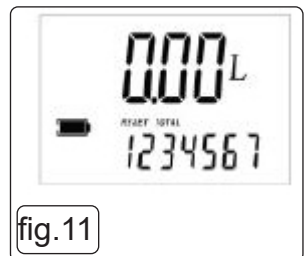

fig.11
5.7.2. Reset the total (5.4.4) fig.11 to zero.
5.7.5. Once value is correct (i.e. matches measured value) press and hold MOVE key until Cal mode quits (fig.11).